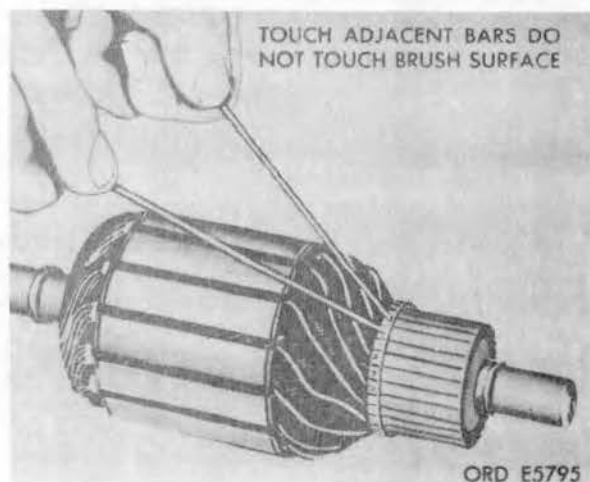

FIGURE 24. CHECKING ARMATURE FOR OPEN CIRCUITS.
- (4) Check for open circuits. Touch test probes of continuity tester to risers on each of a pair of adjacent commutator bars as shown in figure 24. Repeat test on each pair of adjacent commutator bar risers. An armature may be repaired providing the commutator bars are not too badly burned. Do not touch brush surface of commutator.